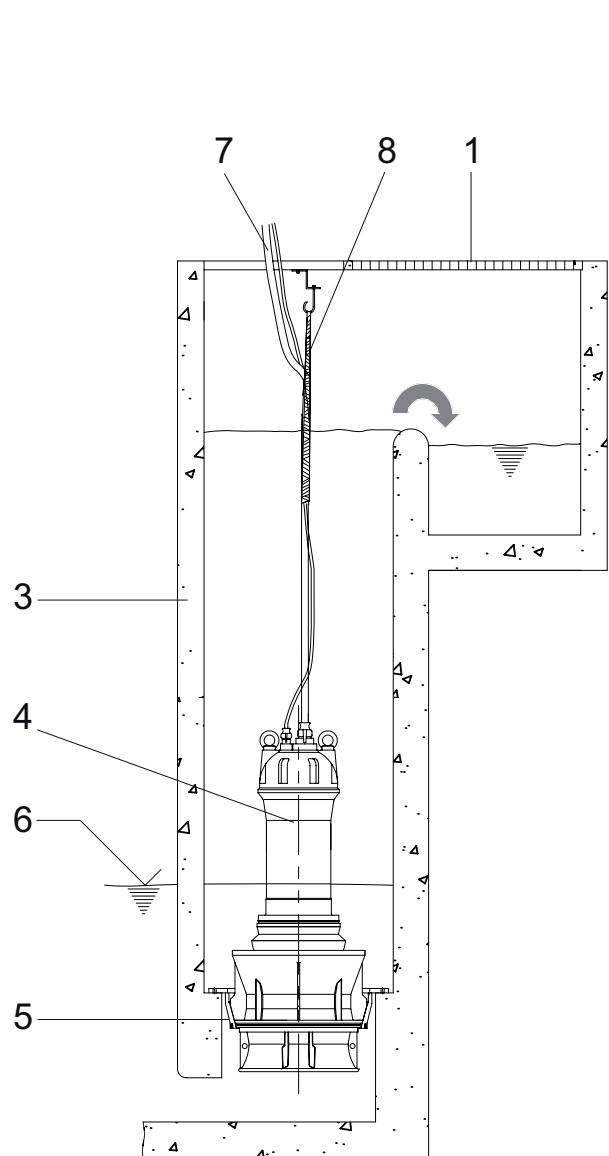

Figure 26 VUP/AFL in a concrete sump
2. Installation in a concrete sump in accordance with *Figure 26*